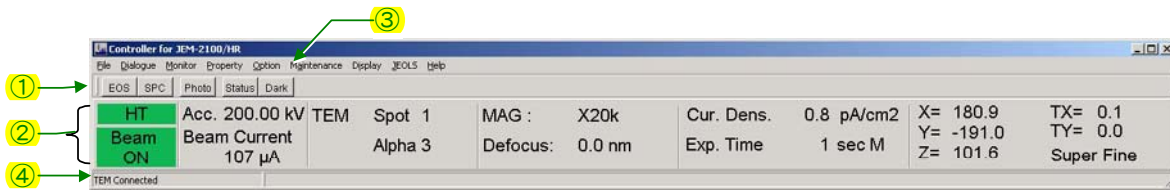

Fig. 4.13 TEM Controller window
- ◆ Double-click on the TEM Controller icon (Fig. 4.12) in the PC monitor screen (Fig. 3.6) to start the TEM controller program. The TEM Controller window appears (Fig. 4.13).